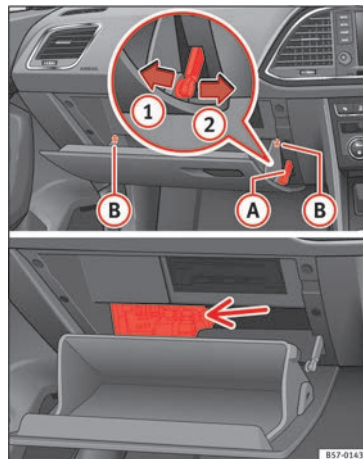

Fig. 102 Glove compartment (right hand drive): accessing the fuse box.
- Undo the opening limiter»» Fig. 102 **A** in two steps: first, unlock the limiter by pulling back on it (arrow **1**) and then move it gently to the right (arrow **2**). Undo the cover from its guide when it is at its normal opening angle (30°).